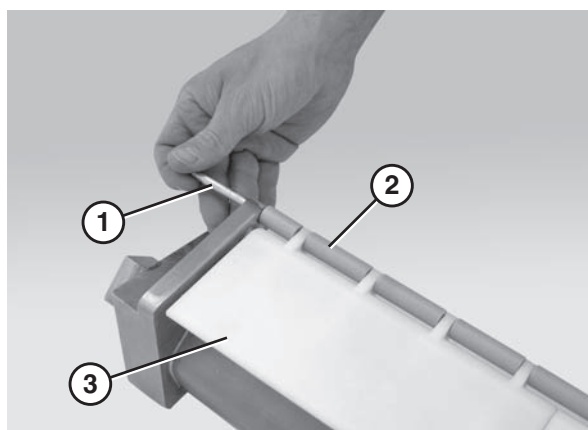

Figure 73
5. Remove the nose bar shaft (**Figure 73, item 1**), the rollers (**Figure 73, item 2**) and the roller mounts (**Figure 73, item 3**).